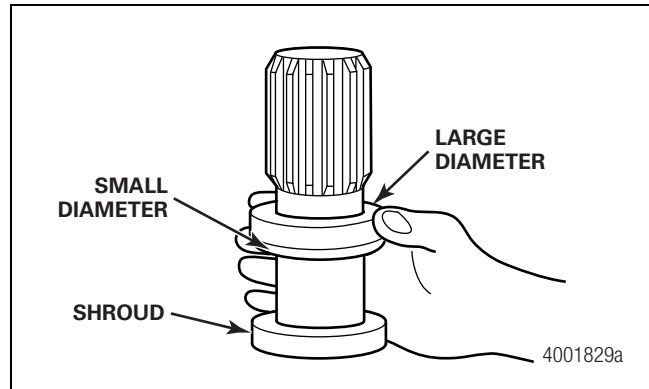

Figure 4.2
2. Install the new seal onto the spline shaft neck. Ensure that the seal is installed with the SMALL diameter side facing DOWN for correct installation. Figure 4.2.